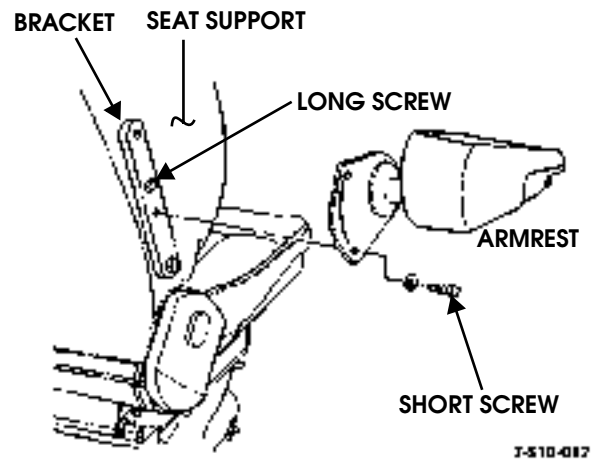

Figure 10-34: Driver's Seat Armrest Mounting
2. Remove short screws and lockwashers attaching armrest to bracket (Figure 10-34).
1. Secure bracket to seat support with one of the long screws. Do not tighten screw (Figure 10-34).